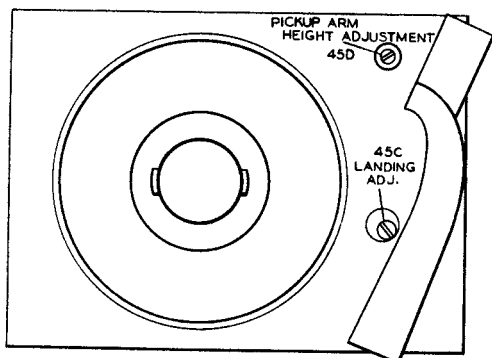

Figure 42—Height and Landing Adjustment Studs.
1. After the tripping adjustment has been made as described above, turn the eccentric landing adjustment stud (45C) so that the sapphire will set down on the record half-way between the outer edge and the first music groove. This position is $2\frac{5}{8}$ " from the turntable spindle. The location of the adjustment stud is illustrated in Figure 42.
Set the mechanism in cycle. Turn the turntable by hand, until the pickup arm has reached its maximum height. By means of a screwdriver turn the height adjustment stud (45D) until the distance between the top of the turntable and the sapphire point is $\frac{3}{4}$ ". Use that position of the eccentric stud which causes the pickup arm to rise during clockwise adjustment of the stud. The location of the adjusting stud is illustrated in Figure 42.